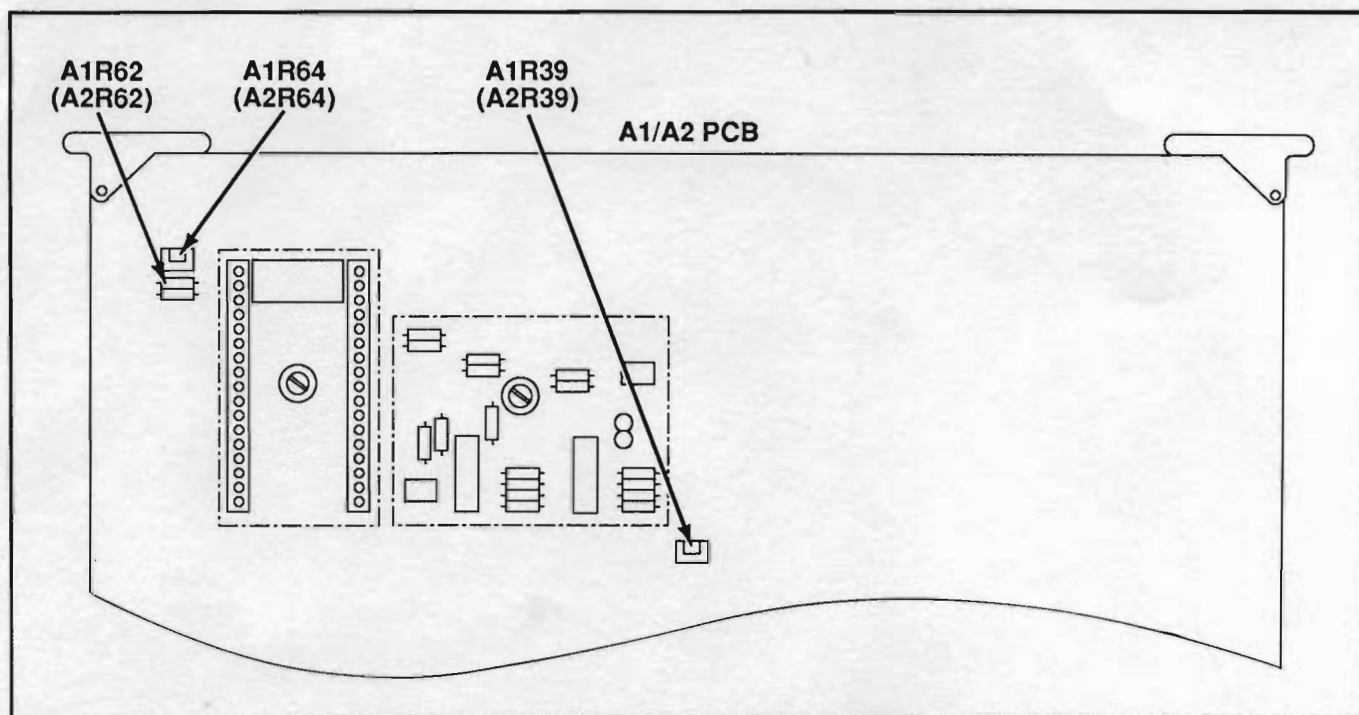

Figure 3-3. A1/A2 PCB Adjustments
16. Adjust A2R62 for $0V \pm 0.2V$, as read on the ENGINEERING MODE display (Figure 3-3).